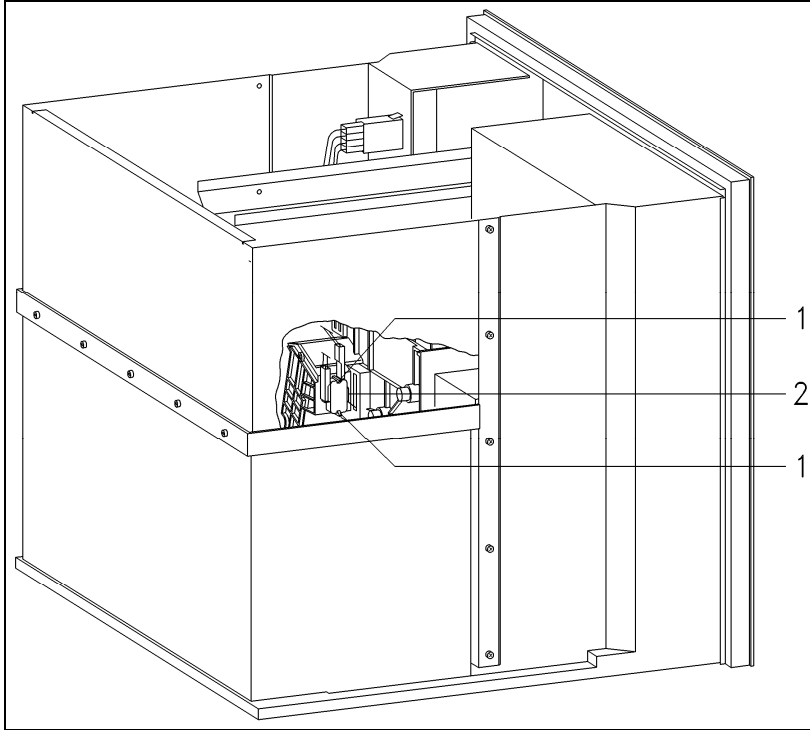

Figure 5-52: Brew Unit Present Switch Removal
3. Disconnect the switch (Figure 5-52, Item 2).